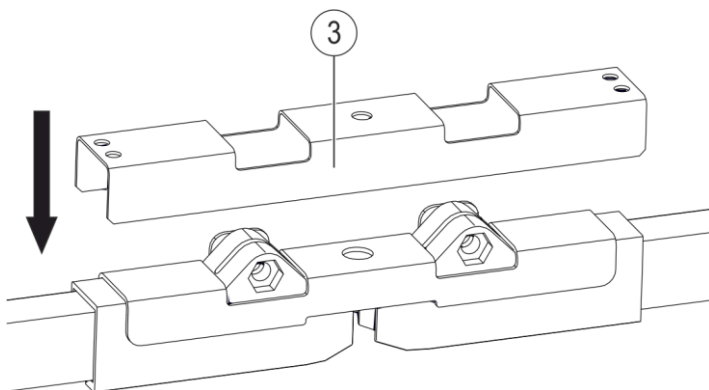

Fig. 99: Place the cover
- Place the cover (Pos. 3) on the plate (Pos. 2) (see Fig. 99).